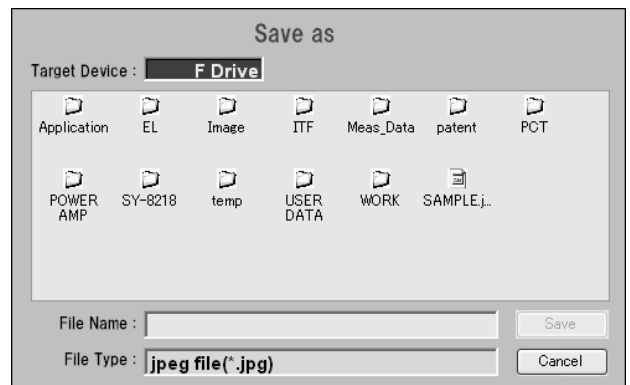
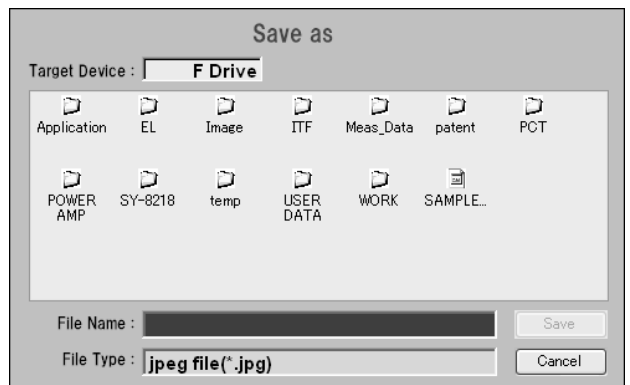
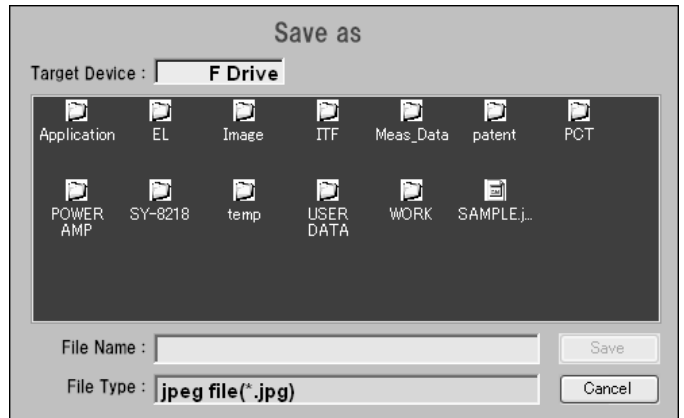
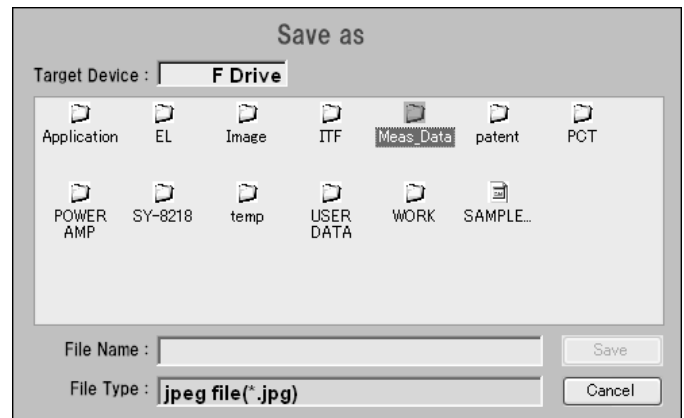

Fig.6-17 Save As screen
Fig.6-18 Save As screen
Fig.6-20 Save As screen
Fig.6-21 Save As screen
(See Fig.6-17.)
⑤ In the status shown in Fig.6-17, move the edition cursor to File Name (see Fig.6-18).
⑥ Press  to open Popup Edit Box in which a file name^{*6-7}
- ⑧ In the status shown in Fig.6-17, move the edition cursor to the file display area (see Fig.6-20).
- ⑨ Press  to select the route as an output destination.
- ⑩ Press  to move the edition cursor to Meas_Data folder (see Fig.6-21).